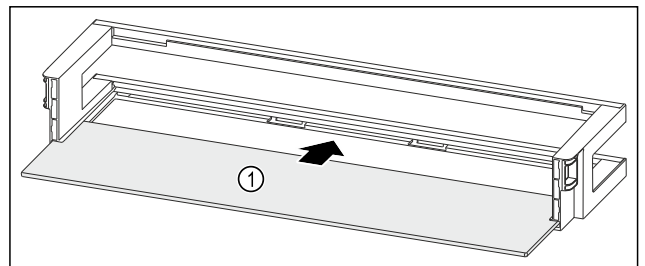

Fig. 165 Door rack with shelf
- ▶ Push the shelf Fig. 165 (1) into the side recesses.